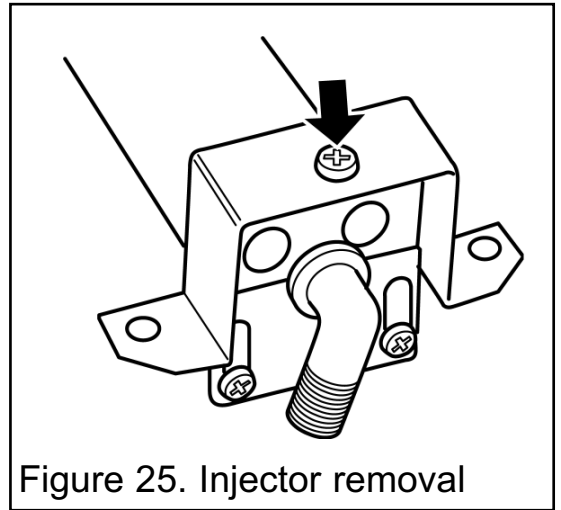

Figure 25. Injector removal
2. Remove the burner clamping screw (See figure 25)